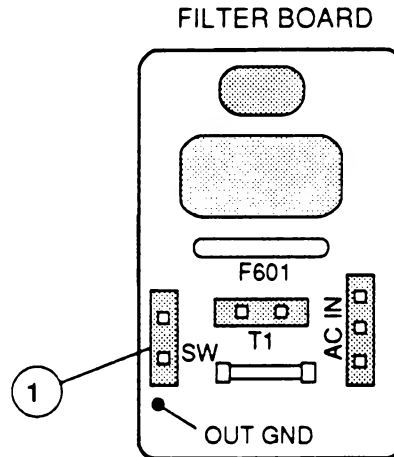

FIGURE 19
5. Disconnect the power switch connector from SW on the line filter board (Figure 19, #1).